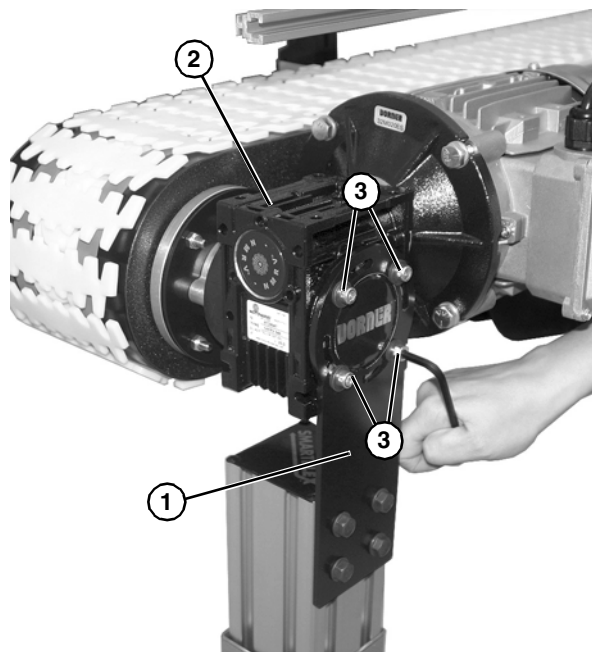

Figure 41
5. Install drive motor stand mounting bracket (Figure 41, item 1) onto the drive motor (Figure 41, item 2) with four washers and socket head screws (Figure 41, item 3).